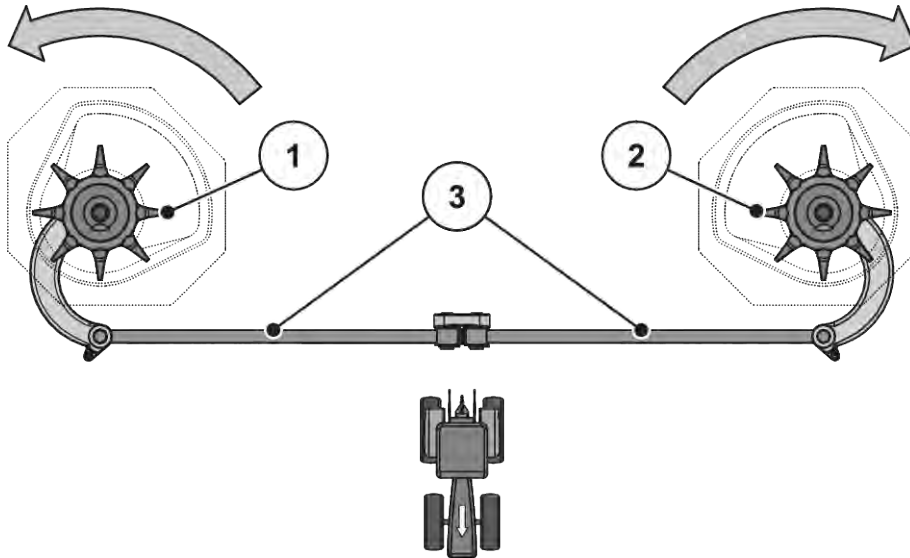

Fig. 61: Checking the agitator drive
► Manually turn the agitator head **into the rotational direction of the spreading disc**. See Fig. 61 Checking the agitator drive.
► Turn the agitator head manually or with the help of an oil filter belt forcefully **against the rotational direction of the spreading disc**. See Fig. 61 Checking the agitator drive